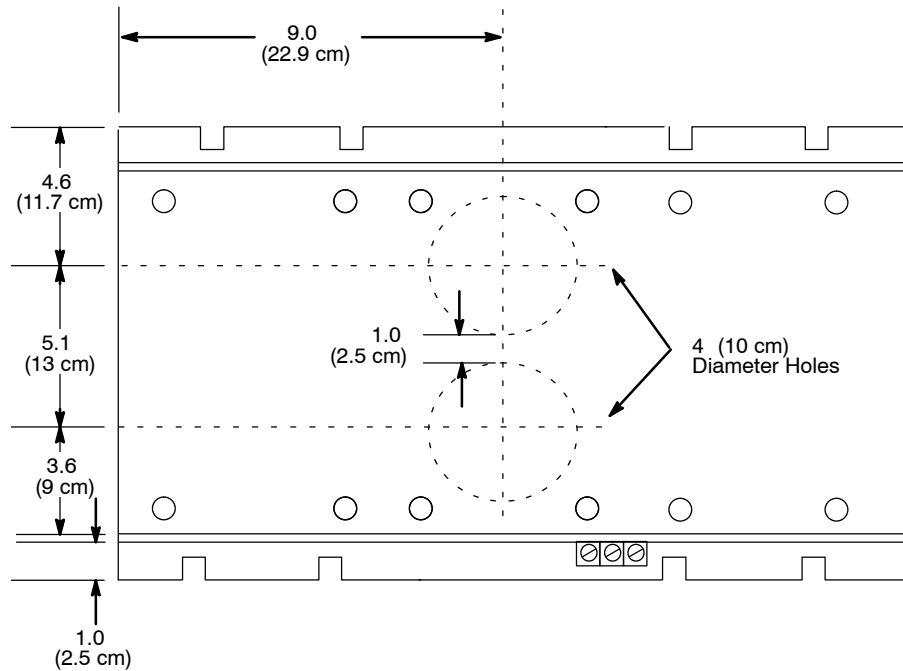
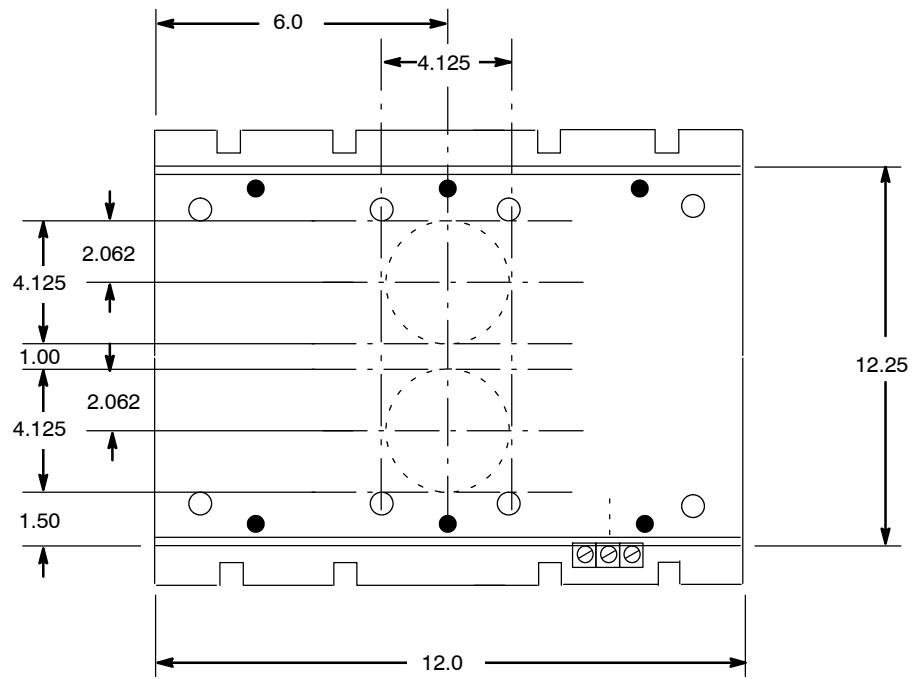

Figure 12 Dimensions to Locate Optional Fan Holes on CPM Three-Position Mounting Plate
Figure 13 Dimensions to Locate Optional Fan Holes on CPM Two-Position Mounting Plate
2. If the inside cabinet temperature is above 40° C (104° F), punch the two four-inch diameter holes beneath the mounting positions for the cooling fans. Figure 12 provides dimensions to locate the hole positions on the three-position mounting plate. Figure 13 provides dimensions to locate the hole positions on the two-position mounting plate.